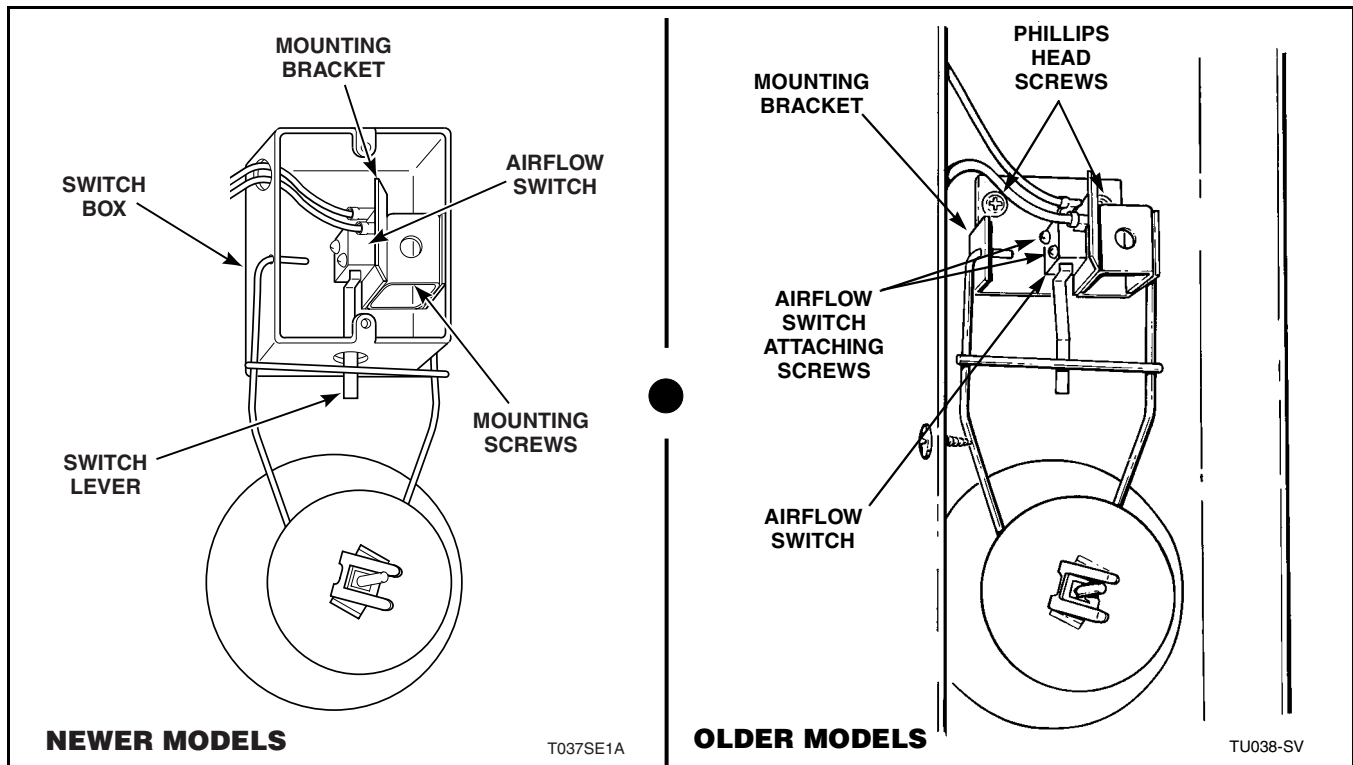

Figure 38
- Disconnect wires from switch. Refer to *Figure 38*.
- Remove screw(s) holding switch and mounting bracket to rear of tumbler (older models); or to switch box (newer models), Refer to *Figure 38*.